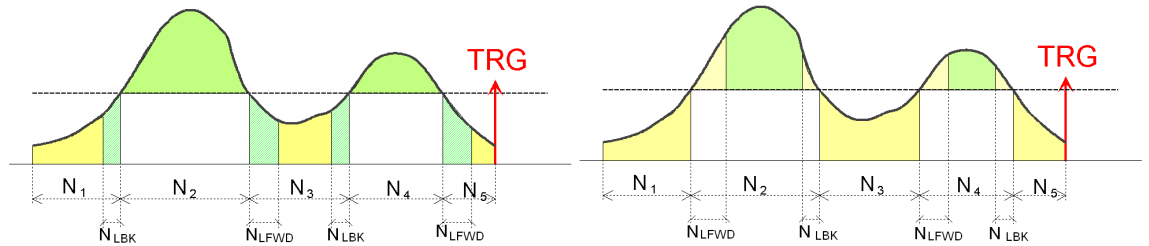

Fig. 8.9: Example of non-overlapping N_{LBK} and N_{LFWd} in case of positive logic (left) and negative logic (right).
1. In the simplest case N_{LBK} and N_{LFWd} **do not overlap**. Fig. 8.9 reports the case of positive logic on the left, and negative logic on the right. The green areas correspond to the over threshold samples, while the yellow ones correspond to the under threshold samples: